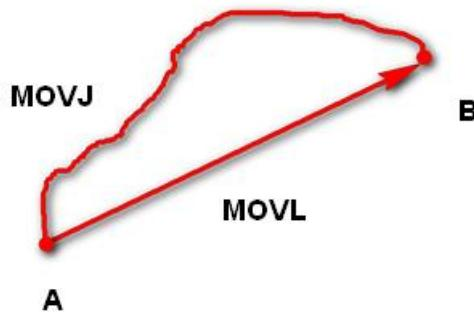

Figure 2.6 MOVL & MOVJ mode
- **MOVJ:** Joint movement. From point A to point B, each joint runs from initial angle to its target angle, regardless of the trajectory, as shown in Figure 2.6.
- **MOVL:** Rectilinear movement. The joints perform a straight-line trajectory from point A to point B, as shown in Figure 2.6.